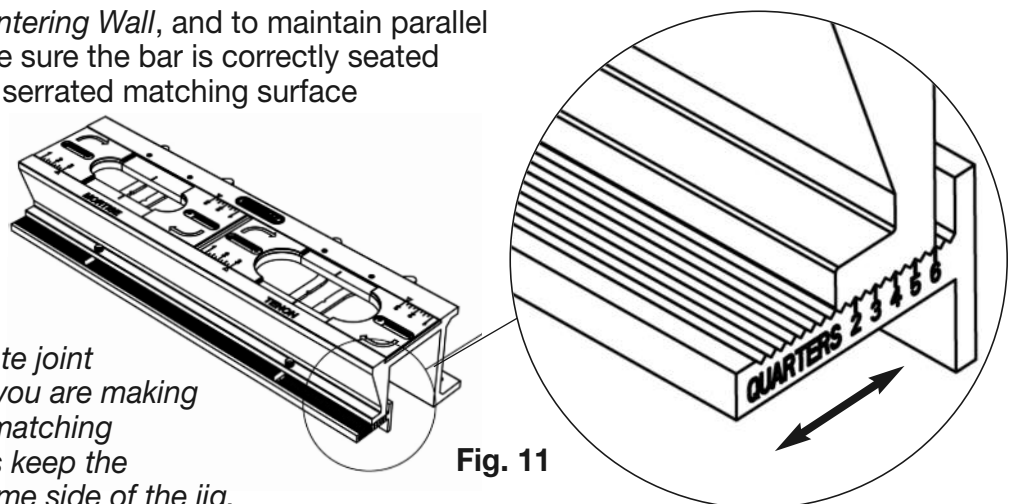

Fig. 11
- The markings are on the tenon end of the *Centering Wall* [4A]. Use these "quarter" units to adjust for the thickness of your stock in "quarters". For example: if you are using 3/4" (three quarter) stock, align the number "3" with the inner wall of the jig (Fig. 11), and the stock will be at its nominal center in the templates.
- When adjusting the *Centering Wall*, and to maintain parallel alignment, always make sure the bar is correctly seated on the jig body with its serrated matching surface [4B] (Fig.11) in the jig.